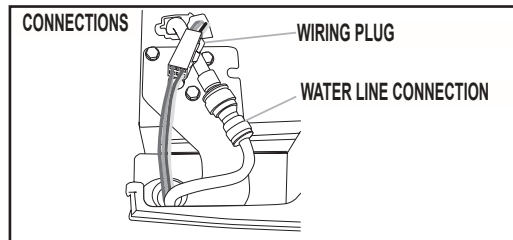

FIGURE 3
9. Before removing the left-hand side door, remove top hinge cover. Disconnect the wiring plug located on top of the hinge by wedging a flat-blade screwdriver or your fingernail between the two sections. See *Figure 3*.
10. Disconnect the water line by pulling back on the locking collar while pulling the water line out of the water line connector. See *Figure 3*.
13. Reconnect the wiring plug on top of the left-hand side refrigerator door. See *Figure 3*.
14. Reconnect the water line by pulling back the locking collar ring while firmly pushing the water line into the connector. See *Figure 3*.